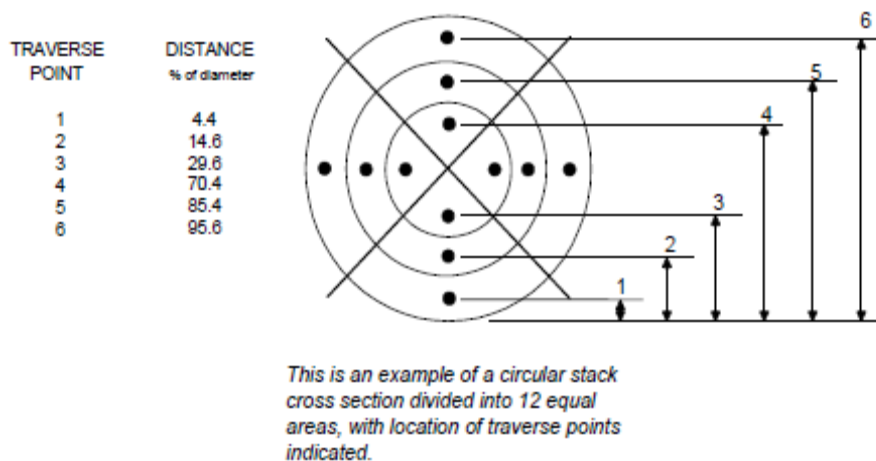

Figure 34 - Traverse Points Located in Centroids for Circular Stack
The minimum number of traverse points required for rectangular stacks is nine, or 3 x 3. After the number of traverse points has been determined, the location of each traverse point must be calculated. The traverse points and their locations are designated as the sample point matrix. For circular stacks, the stack cross-section is divided into concentric rings of equal area based on the number of traverse points divided by four (4), the rings are bisected twice, and the sample points are located in the centroid (center of mass of each equal area, as shown in Figure 34.